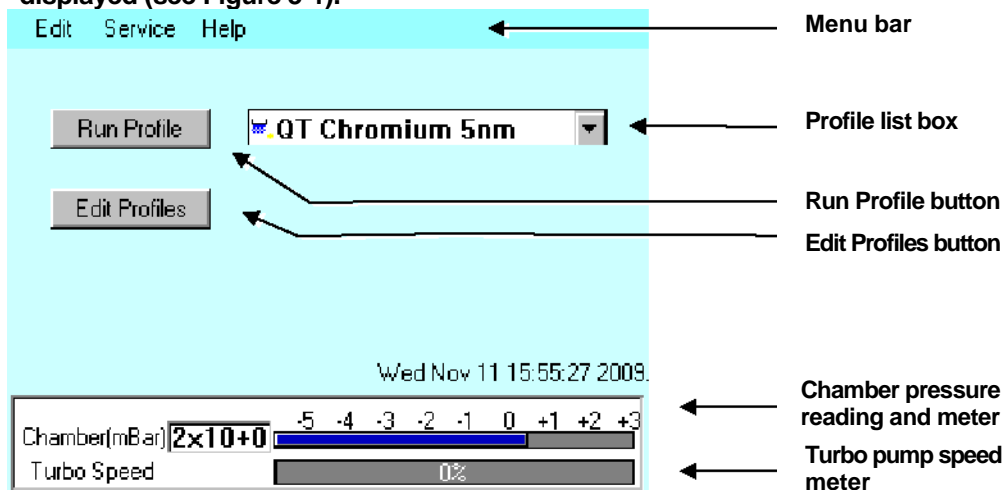
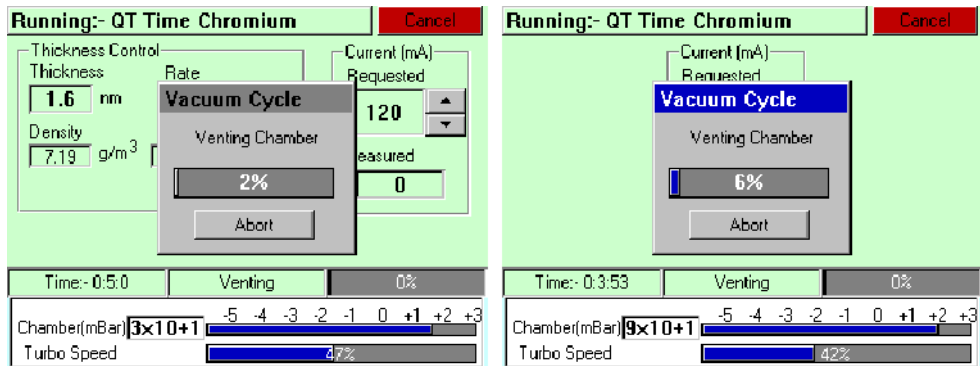

Figure 3-1.
Figure 3-4. Venting the chamber: with FTM installed (left) and without FTM (right).
3. Once the instrument hardware and software has initialized, the standby screen is displayed (see Figure 3-1).
7. At the completion of the run, the EMS150T begins to vent the chamber (see Figure 3-4). If you want to record thickness control or current information, make a note of it now. When the chamber has been vented, the display reverts to the standby screen (see Figure 3-1).